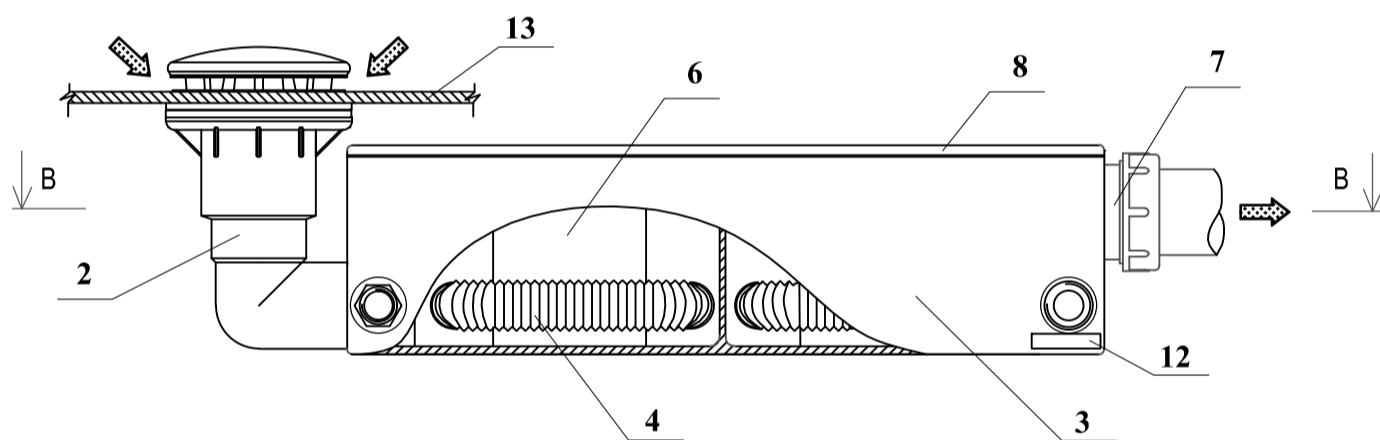

Fig.3
- discharge device (siphon) with waste heat of the waste water bath (the shower tray) shown in **Fig. 3 and 4**.